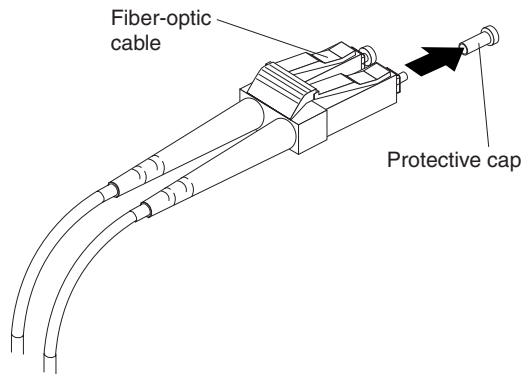

Figure 19. Removing fiber-optic cable protective caps
3. Remove the two protective caps from one end of the LC-LC cable, as shown in Figure 19. Save the protective caps for future use.